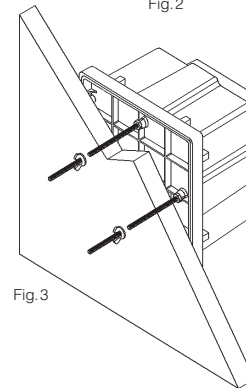

Fig. 3
6. After the forms have been removed, the inner CPC support plate can be taken out and discarded by removing the four 6-32 screws (see Fig 3). The support plate can be left in place during construction to keep out debris.